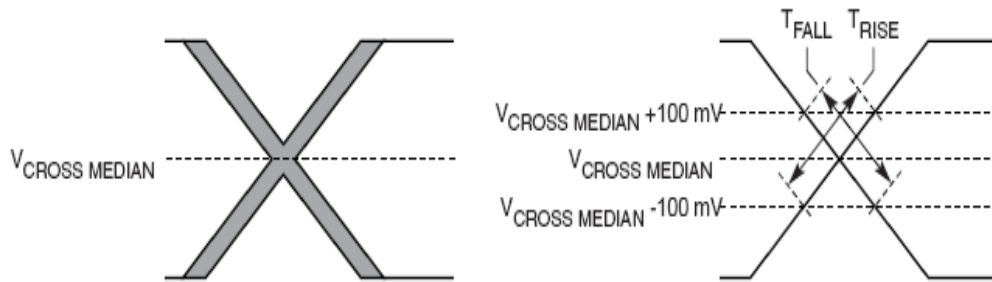

Figure 49. Single-ended measurement points for rise and fall time matching
6. Matching applies to rising edge for $\text{SD}_n\text{_REF_CLK}$ and falling edge rate for $\overline{\text{SD}_n\text{_REF_CLK}}$. It is measured using a 200 mV window centered on the median cross point where $\text{SD}_n\text{_REF_CLK}$ rising meets $\overline{\text{SD}_n\text{_REF_CLK}}$ falling. The median cross point is used to calculate the voltage thresholds that the oscilloscope uses for the edge rate calculations. The rise edge rate of $\text{SD}_n\text{_REF_CLK}$ must be compared to the fall edge rate of $\overline{\text{SD}_n\text{_REF_CLK}}$, the maximum allowed difference should not exceed 20% of the slowest edge rate. See Figure 49.